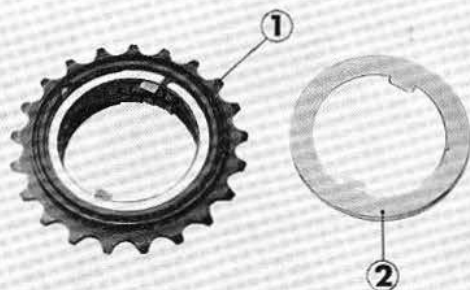

Fig. 4-16 ① Free wheel sprocket
② 50 mm thrust washer C
2. Remove the 50mm circlip and disassemble the free wheel sprocket, 50 mm thrust washer A and C. (Fig. 4-16)